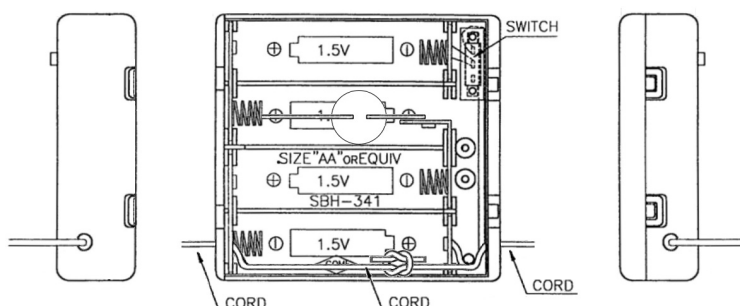

Fig 4L - LED
- 13 - Position the LED in the hole with long lead toward the spring. [Fig 4L]
- 16 - Solder the short lead to the bent connector and the long lead to the spring. [Fig 4L]